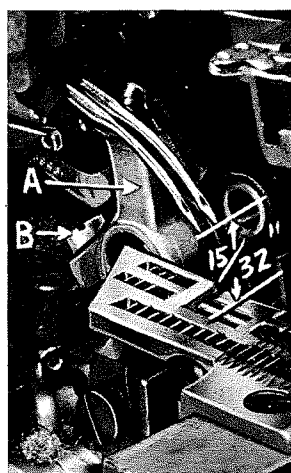

Fig. 3
With the throat plate in position, needles should center in the front end of needle slots. When needles are at high position, needle points should be set $15/32$ inch above throat plate (Fig. 3). Move needle driving arm (A, Fig. 3), by loosening clamp screw (B). Remove the throat plate.